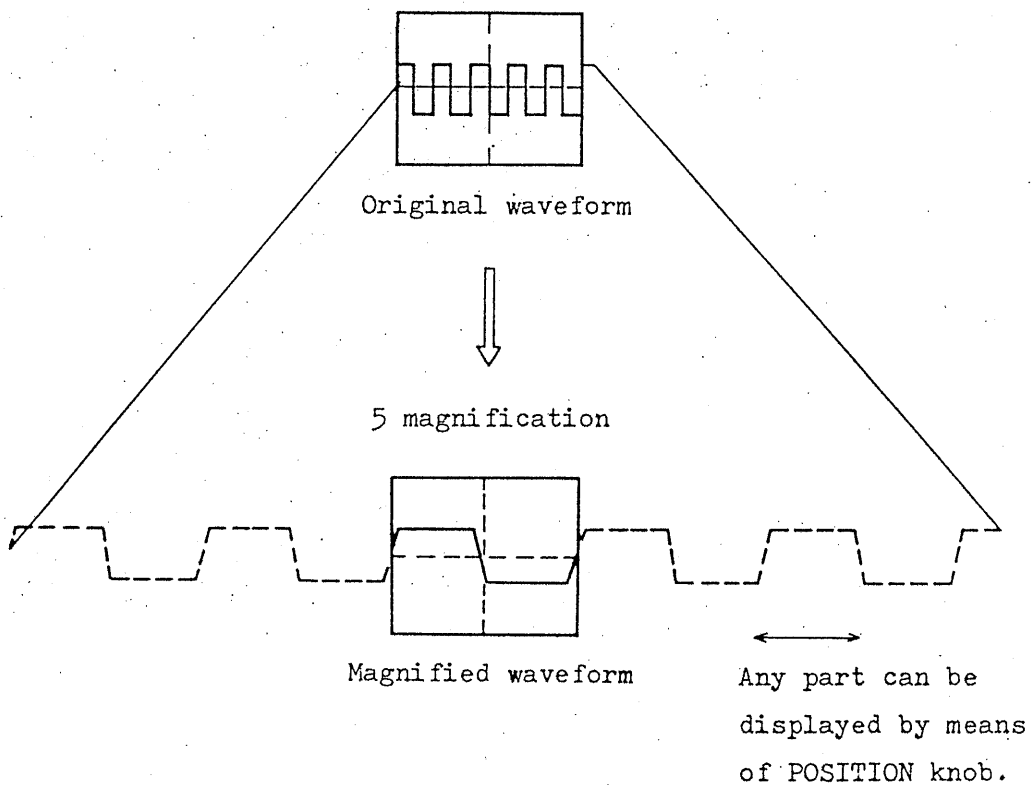

Fig. 9
When a part of the input signal waveform is required to be enlarged for observation of details, a faster sweep speed may be used. However, if the part to be enlarged is apart from the start of the sweep, the part may run out of the screen. In such a case, by pulling out the HORIZONTAL POSITION knob (14), the displayed waveform can be magnified by 5 times to right and left from the center of the screen as shown in Fig. 9.